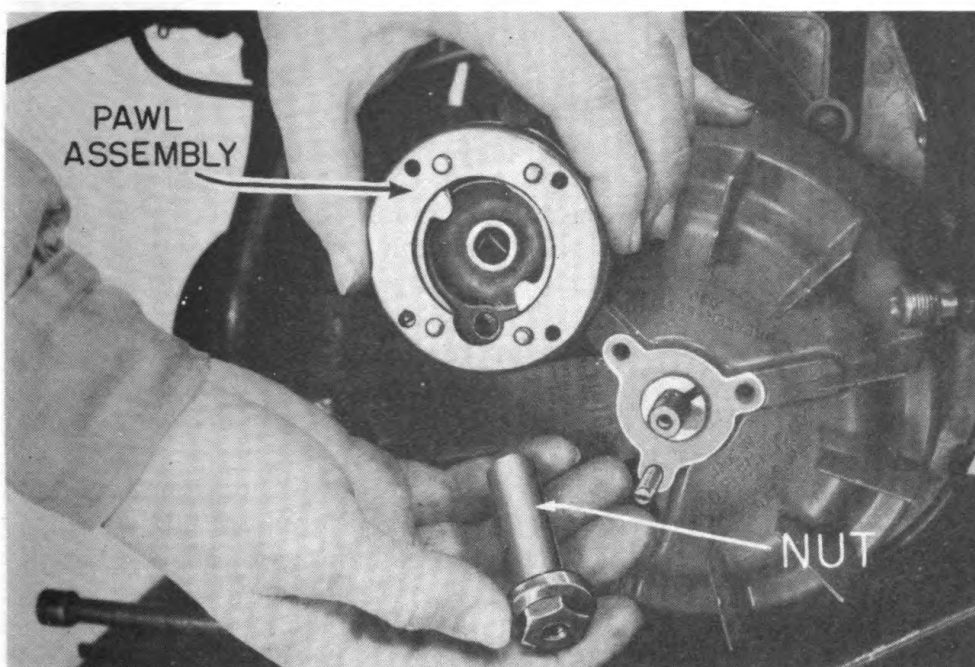

Fig 46. Removing starter pawl assembly and flywheel nut from engine shaft.
f. Remove flywheel. To do this, place heavy duty screw driver between flywheel and engine bearing plate as a pry, pull flywheel nut out 1/4 inch, and then strike end of nut with hammer as shown in figure 45. This jars flywheel loose, and permits flywheel, starter pawl assembly, and flywheel nut to be removed from shaft. (Fig 46)